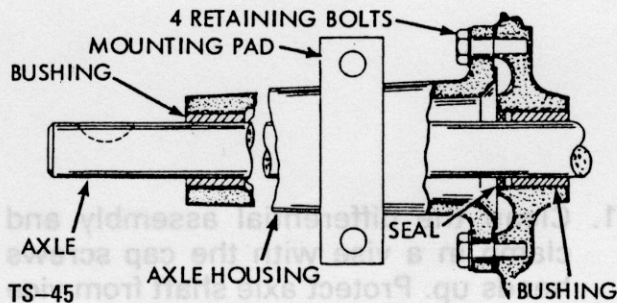

Figure 54 - Bushings and Seal and Axle Housing
11. Install axle support housing. (Figure 54) Torque (4 each) the 5/16-18 x 3/4" cap screw to 13 ft. lbs. Be sure mounting pads are correctly positioned.
12. Install shifter lever housing. Use a new gasket. Torque (3) socket head cap screws to 10 ft. lbs.